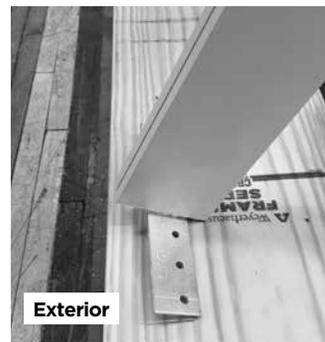
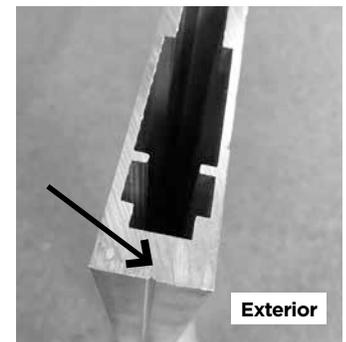

Figure 3a
Figure 3b
3. Slip the mullion anchor clips into the top and bottom of the mullion and slide the mullion assembly into the opening (**Fig. 3a**). The "V" groove extruded into the mullion **MUST** be positioned to the exterior of the opening (**Fig. 3b**).